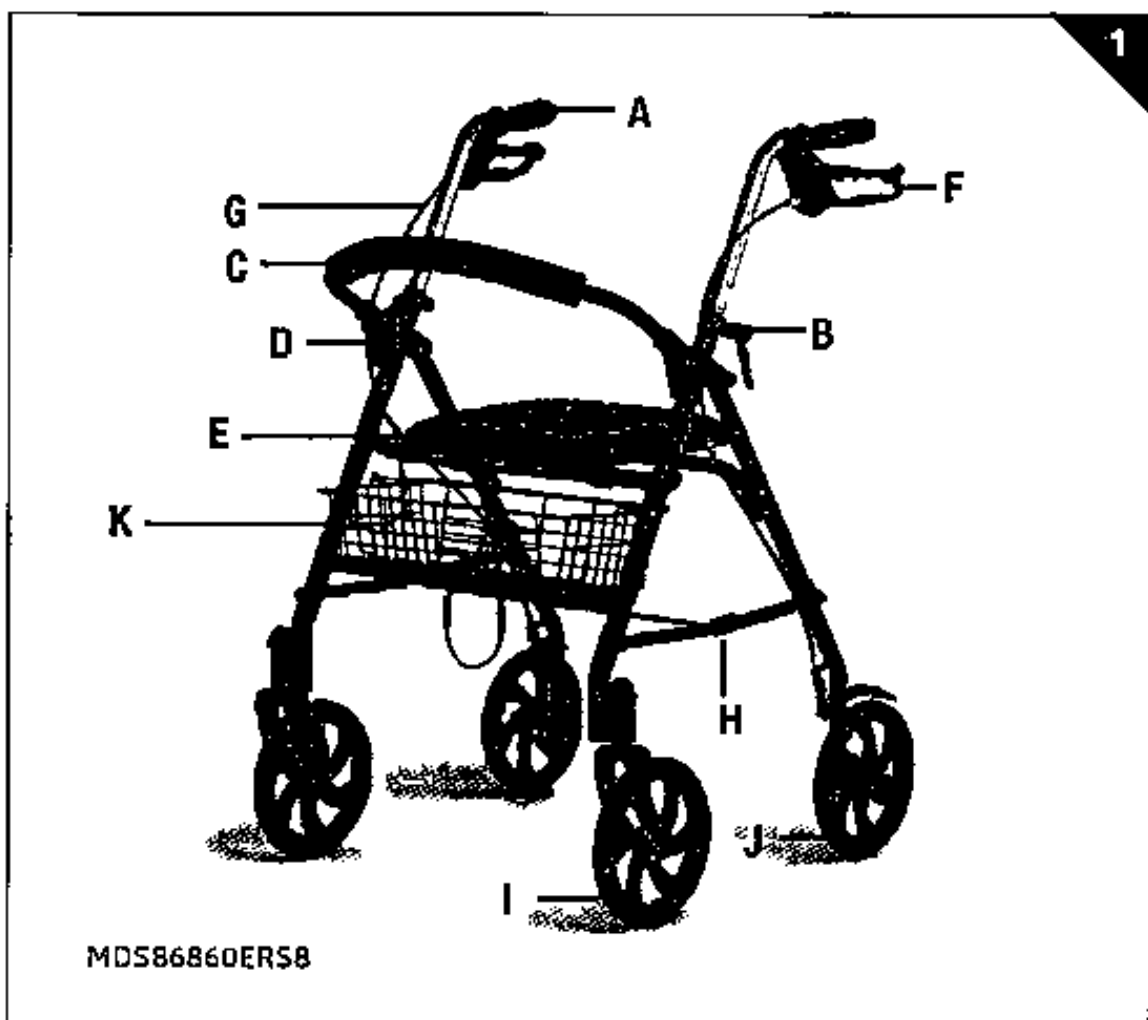

Figure 1: Assembled Rollator
1. Carefully remove the rollator components from the shipping carton. Refer to diagram (**Figure 1**) as needed.